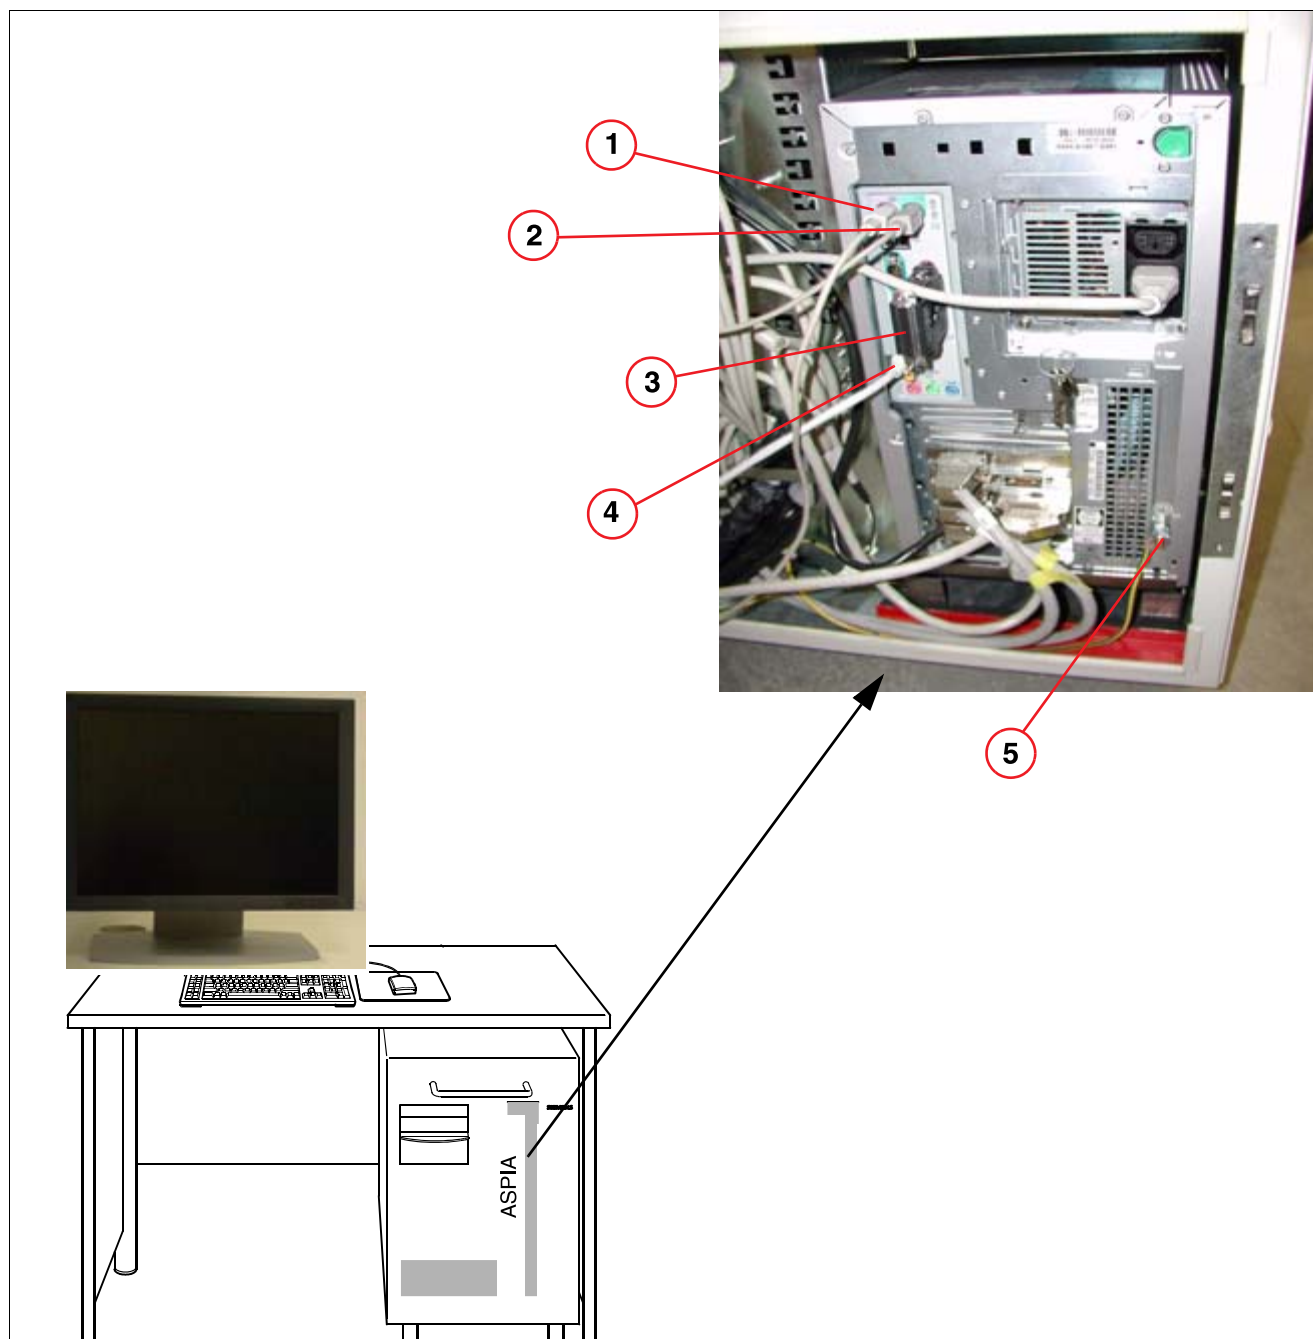

Fig. 81: ASPIA container
- Connect the mouse to the right connection with the **mouse** symbol \(2/Fig. 81 / p. 70\).
- Connect the PC to the local network via an unshielded twisted pair lead \(4/Fig. 81 / p. 70\).
- Connect the keyboard cable to the left connection with the **keyboard** symbol and secure the cable via cable ties \(1/Fig. 81 / p. 70\).
- Connection directly to the PC network connection (RJ45 connection on the back of the PC; (4/Fig. 81 / p. 70)).